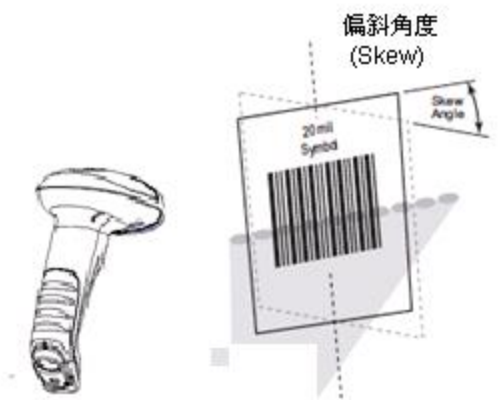

Fig. 1-15
- ◇ Skew: $\pm 55^\circ$, 0° Roll and 0° Pitch (Fig. 1-15)